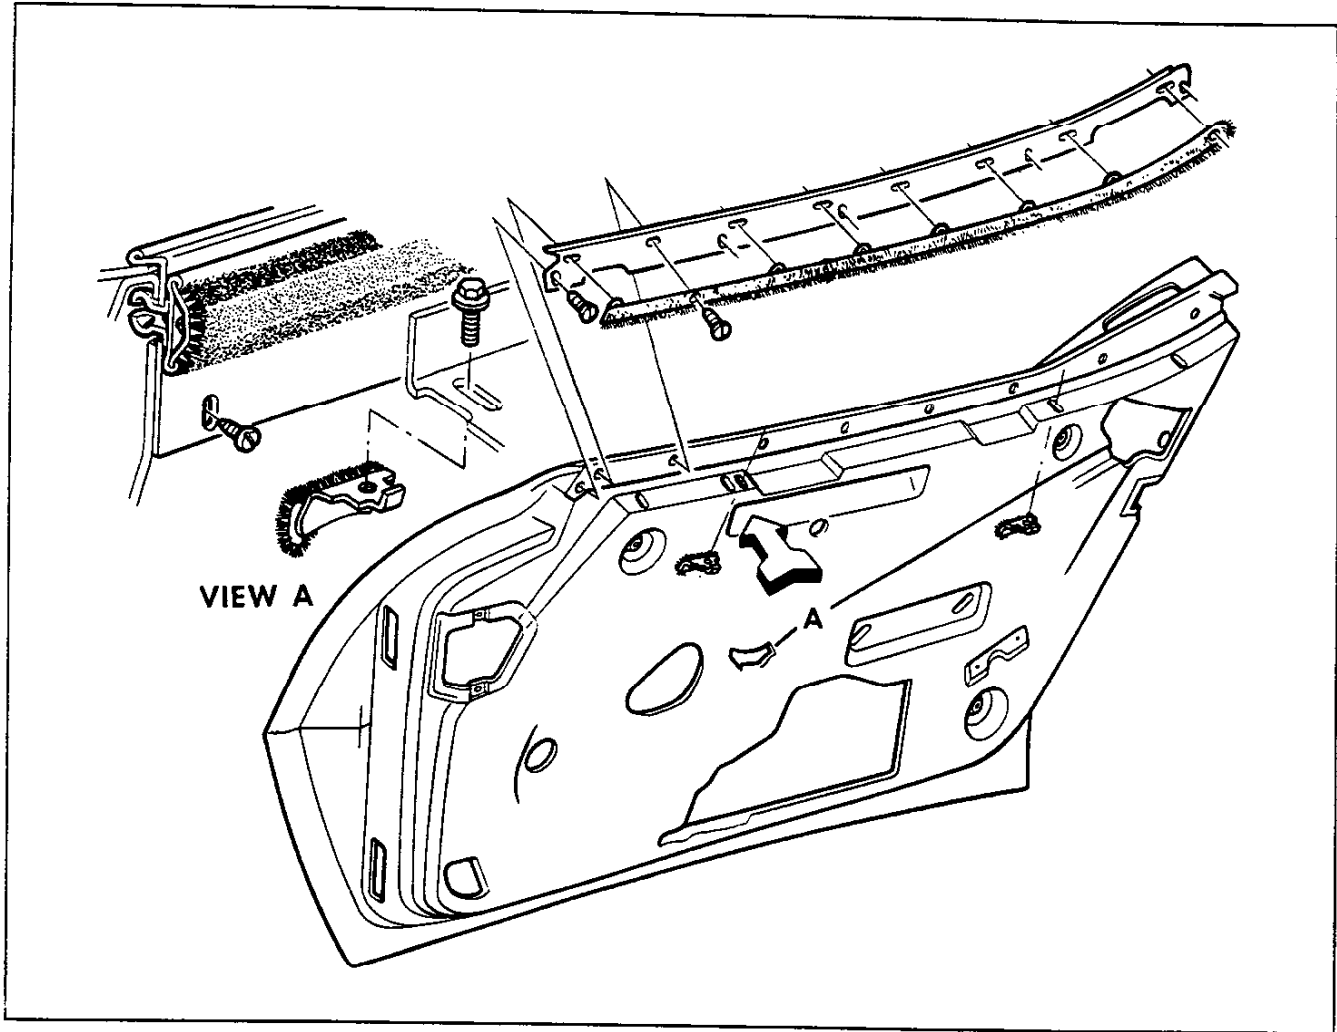

Fig. 23—Window Glass Seals and Molding
WINDOW OUTER SEAL ASSEMBLY (Fig. 23)
3. Remove two (2) screws one located at each end of seal (fig. 23).
4. Carefully pry out at six (6) retaining clips.
WINDOW ANTI-RATTLE (Fig. 23)